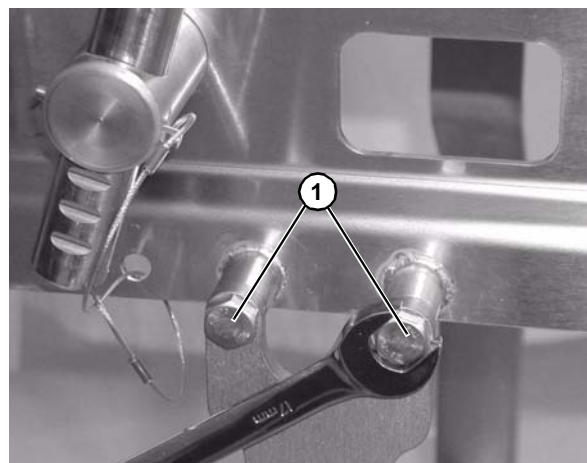

Figure 8
2. Attach the stands to the frame (**Figure 8**).
3. Tighten hex screws (**Figure 8, item 1**).